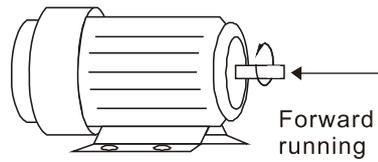

Figure 5-1
- ☑ When the AC drive output terminals U/T1, V/T2, and W/T3 are connected to the motor terminals U/T1, V/T2, and W/T3 respectively, the FWD LED indicator on the digital keypad is ON. This means the AC motor drive executes running forward, and the motor rotates counterclockwise (viewed from the shaft end of the motor, as shown in Figure 5-1).
On the contrary, when the REV LED indicator lights, the AC motor drive executes running in reverse, and the motor rotates in an opposite direction to Figure 5-1. If